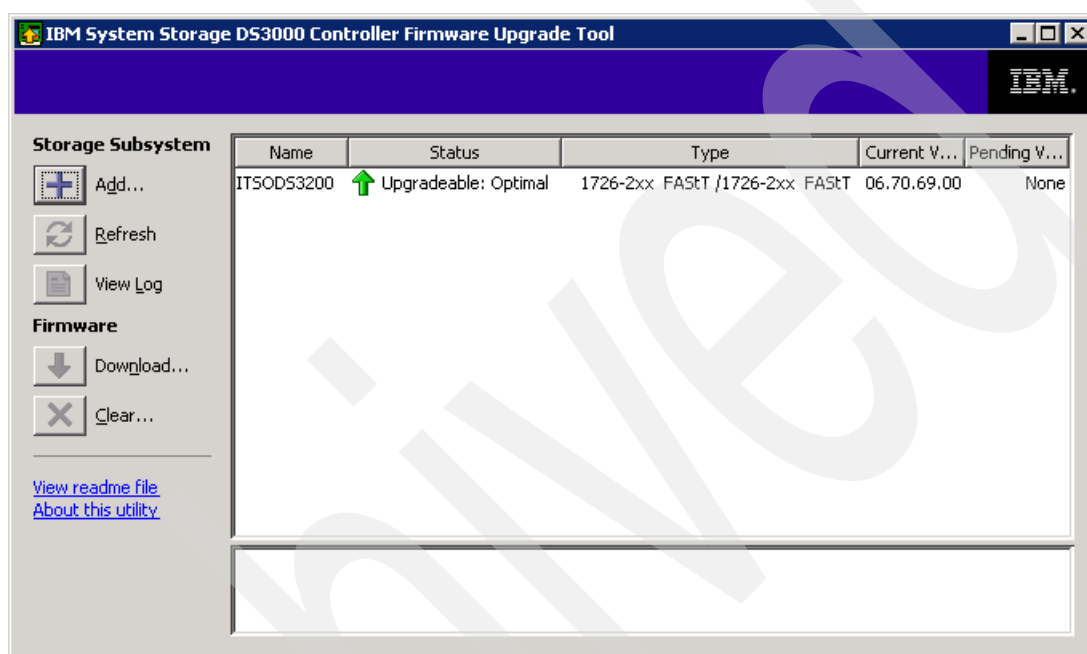
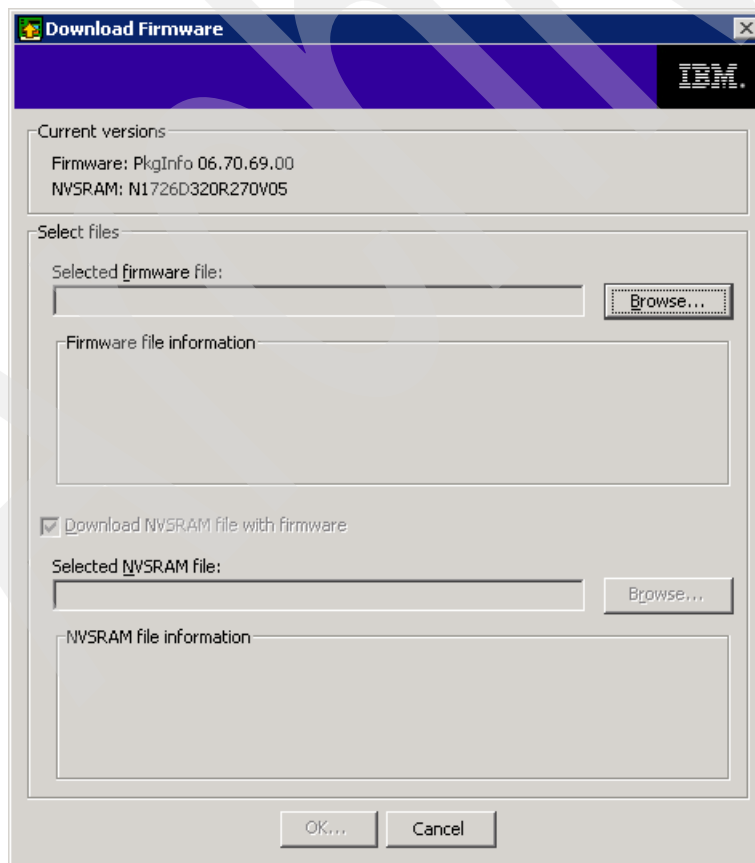
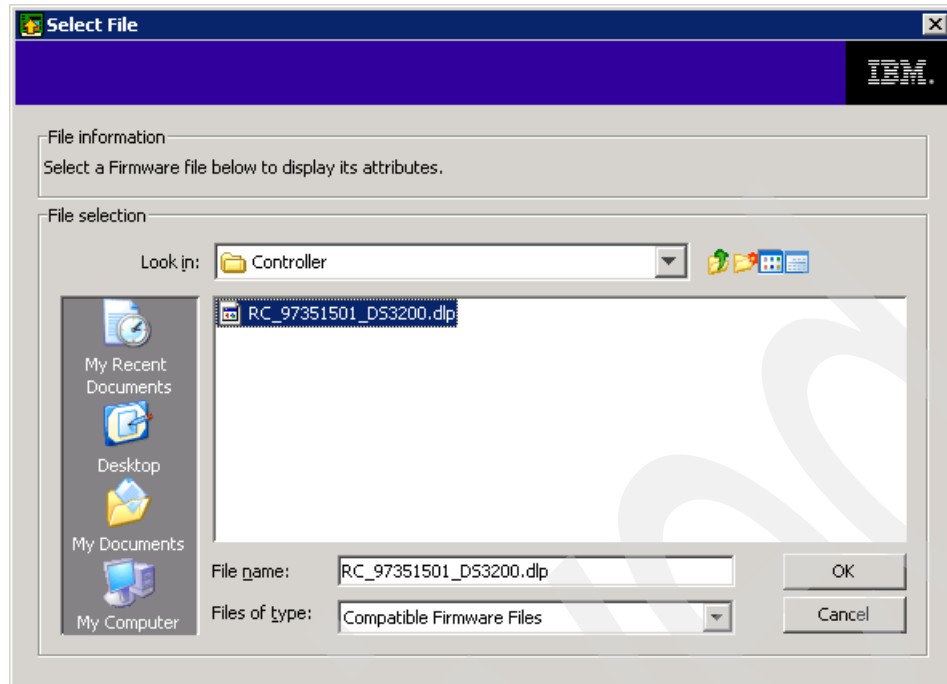
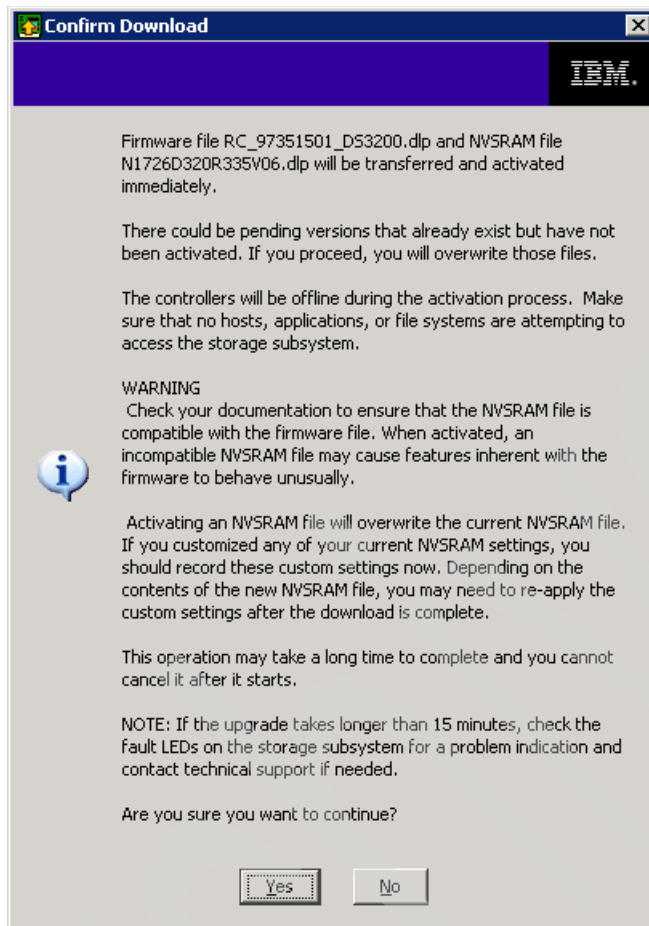

Figure 14-34 Firmware upgrade utility
Figure 14-35 Click Browse to select files for download
Figure 14-36 Select firmware source files
Figure 14-37 Confirming download
1. Start the upgrade utility program. the utility asks for Automatic or Manual discovery of DS3000 subsystems. To add a subsystem manually, click **Add** and enter the DS3000 controller IP addresses or the IP address of the host used for in-band management of the DS3000. Once the DS3000 system is added successfully, the upgrade utility performs an automatic check for any non-optimal condition that would prevent the upgrade from succeeding. After the discovery process completes, a window similar to the one shown in Figure 14-34 appears.
2. Click the **Download** button in the left margin (Figure 14-34 on page 326). This brings up the windows shown in Figure 14-35 and Figure 14-36 on page 328, where you can select the controller firmware source file previously downloaded.
4. Click **OK** to proceed when the controller firmware and NVSRAM files are selected in the window shown in Figure 14-35 on page 327. The warning window shown in Figure 14-37 appears, and you can confirm the upgrade by clicking **Yes**.